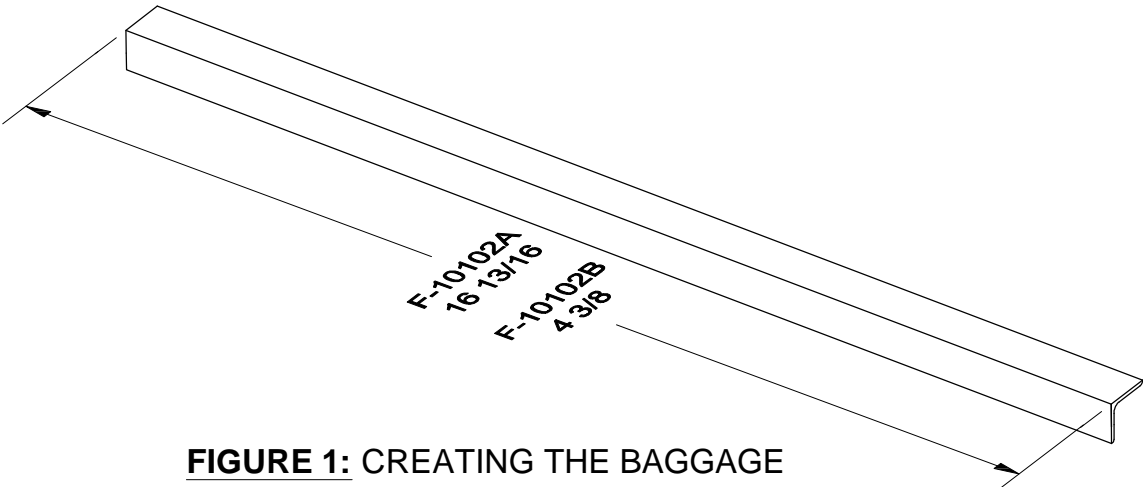

FIGURE 1: CREATING THE BAGGAGE DOOR SEAL ANGLES
Step 1: Cut the F-10102A and B Baggage Door Seal Angle from AA6-063 X 3/4 X 3/4. Use the dimensions given in Figure 1.